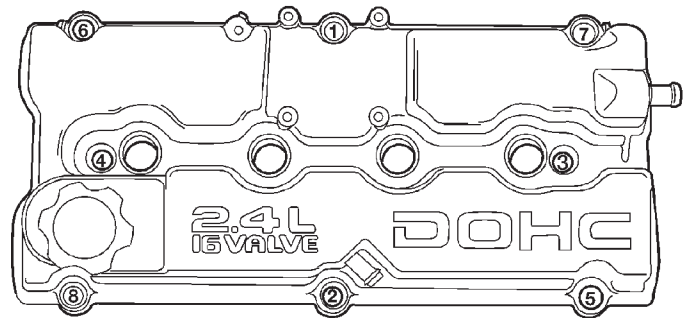

Fig. 30 Cylinder Head Cover Tightening Sequence
- (3) Apply Mopar® Silicone Rubber Adhesive Sealant at the camshaft cap corners and at the top edge of the 1/2 round seal.
- (4) Install cylinder head cover assembly to head and tighten fasteners in sequence shown in (Fig. 30). Using the 3 step torque method: